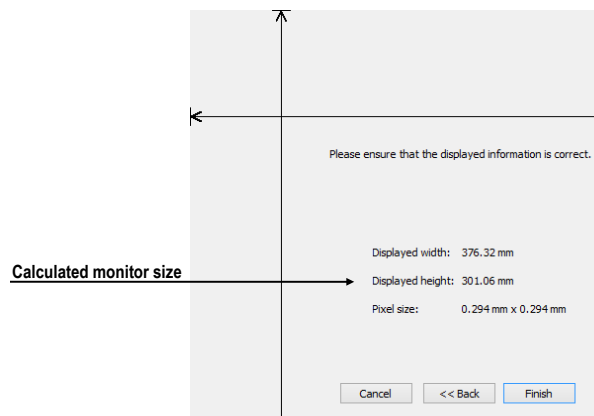

Figure 76 – Monitor calibration verification
5. Verify the calculated calibration size with the actual physical distance measurement tool (ruler) and click the **Finish** (see Figure 76).